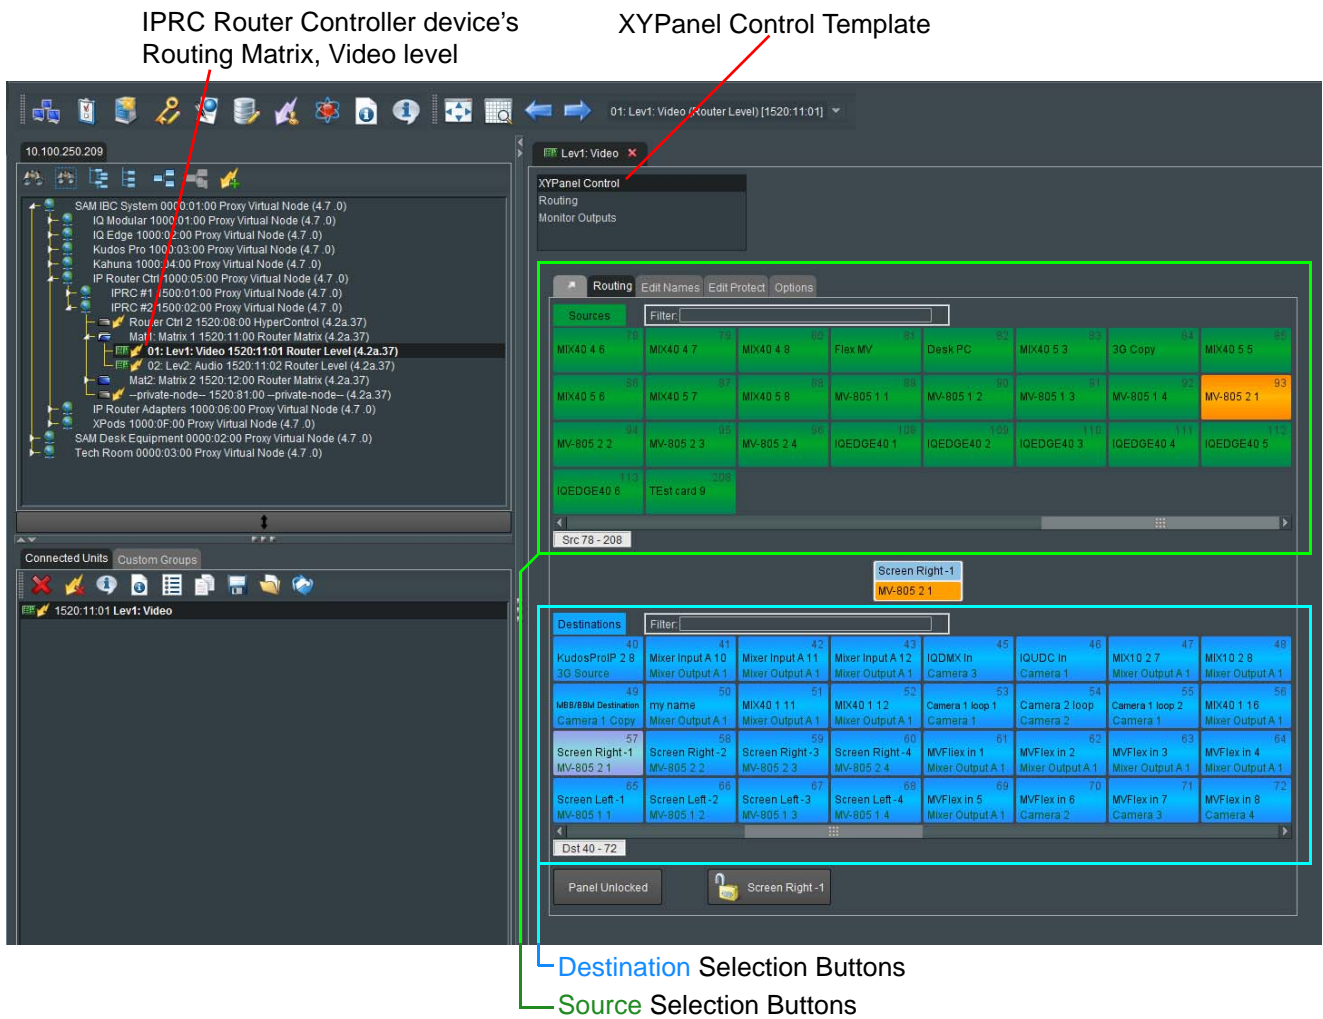

Figure 86 XY Panel Routing Control Template
3. View the **XY Panel Control** template. See Figure 86.